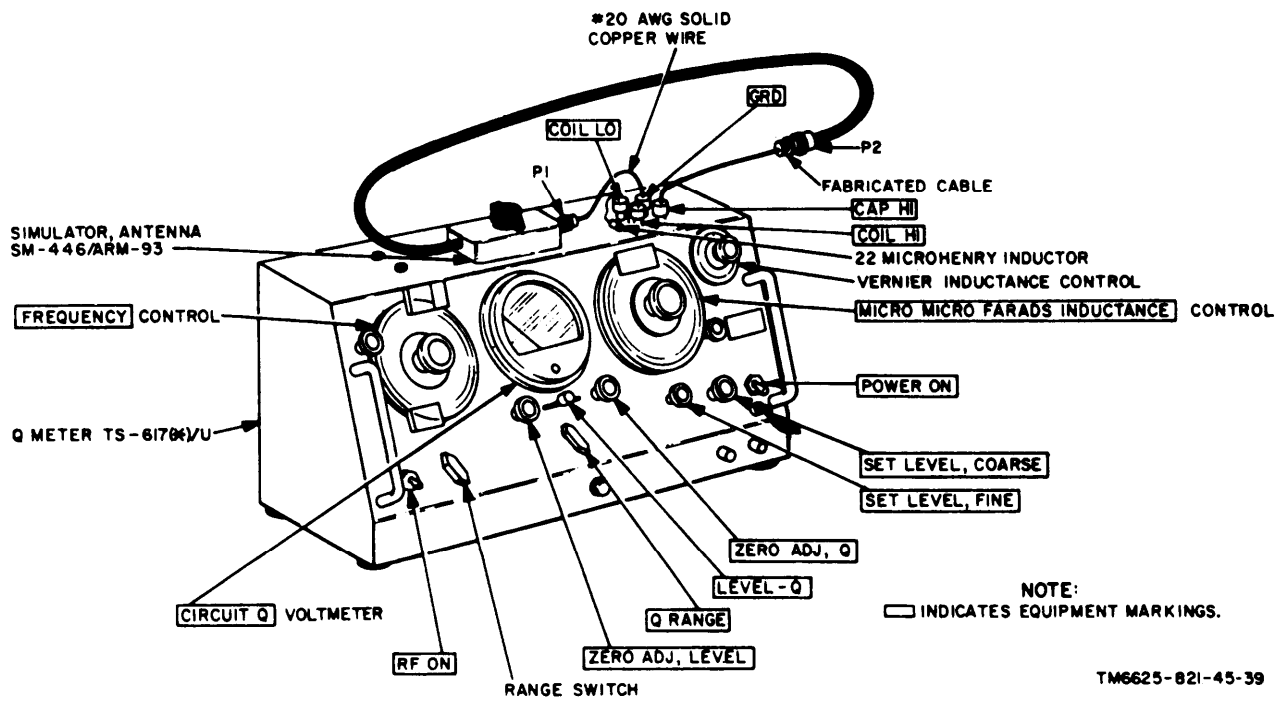

Figure 4-7 Sense antenna adapter test setup.
(1) Q Meter TS-617(*)/U.
(2) Fabricated cable for sense antenna adapter.
b. *Test Connections and Conditions.* Replace the rear plate of the sense antenna adapter. Connect the equipment as shown in figure 4-7. Connect pin C of P1 to TS-617(*)/U with a short piece of #20 AWG solid copper wire. Set POWER ON switch on TS-617(*)/U to ON, and allow a 5-minute warmup period.
| 2 | <p>Set the Q RANGE switch to positions required to keep CIRCUIT Q voltmeter within its range.</p> <p>Set the vernier inductance control to zero.</p> <p>TS-617(*)/U</p> <p>Same as step 1.</p> | <p>SM-446/ARM-93</p> <p>Set the switch on the sense antenna adapter to 270 UUF.</p> | <p>h. Use the recorded values of C1 and C2 in the following formula to calculate the total capacitance (C t) in the sense antenna adapter:</p> $C t = C \frac{1}{2} - C \frac{1}{2}$ <p>Reconnect the equipment as shown in figure 4-7. Connect pin C to P1 to TS-617(*)/U with a short piece of () 20 AWG solid copper wire. Repeat procedure in step 1.</p> | <p>h. The value of C t will equal 82- 8 micromicrofarads.</p> <p>Same as step 1.</p> |